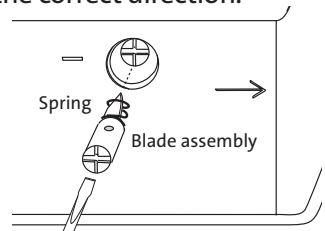

Figure 24
- d. Turn the tool on its side. Orient the blade so that its cutting edge is facing the cutting direction arrow on the tool (see Figure 24). It is possible to insert the blade backwards in the tool- verify that the blade is facing the correct direction.